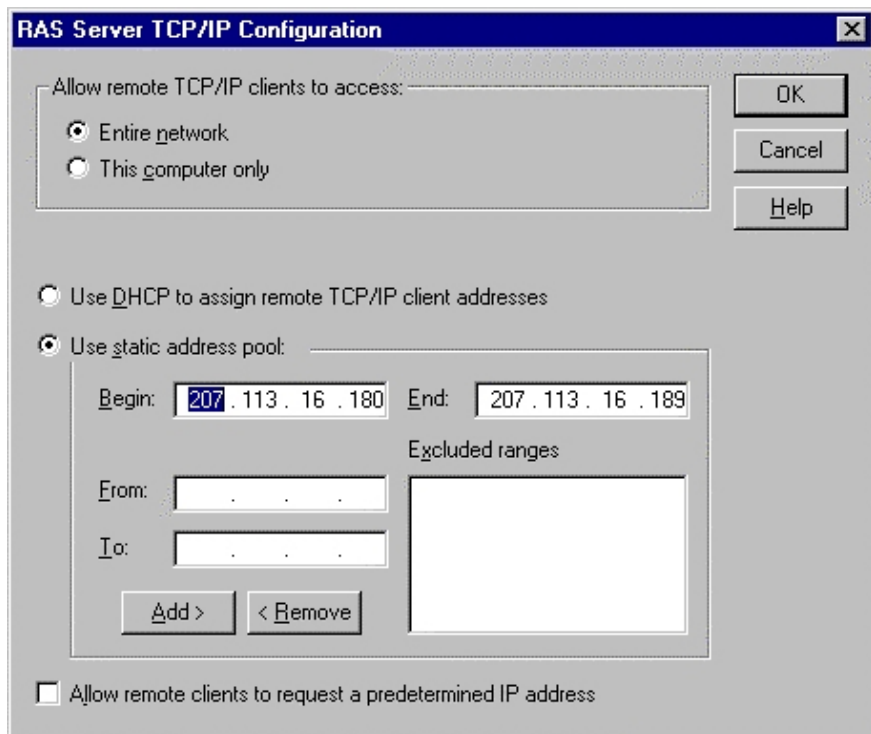

Figure 20. RAS Server TCP/IP Configuration Dialog Box
3. If you set up a port to receive calls, configure the Server Settings for the protocols you selected. In the **Network Configuration** dialog box, Select **TCP/IP** in the Server Settings area, and click the **Configure** button to configure the TCP/IP remote client options. The **RAS Server TCP/IP Configuration** dialog box (Figure 20) is displayed.